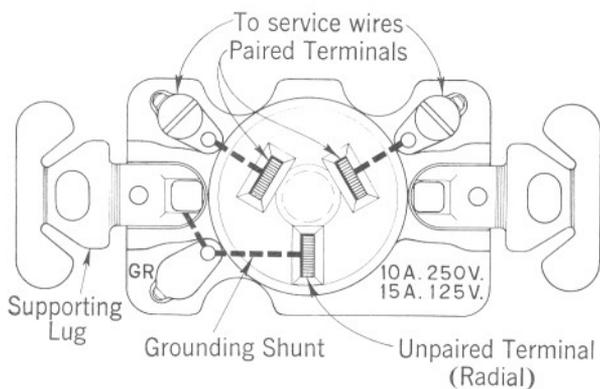

Fig. 3 — 3-wire Flush-type Receptacle with Grounding Shunt
- Figure 3 is deleted.
Figure 3 and 5.06 Delete.
5.06 The Hubbell No. 7189, 3-way flush-type plug receptacle, or its approved equivalent, is grounded by a shunt from the unpaired terminal to the outlet box through the supporting lugs as shown in Fig. 3.